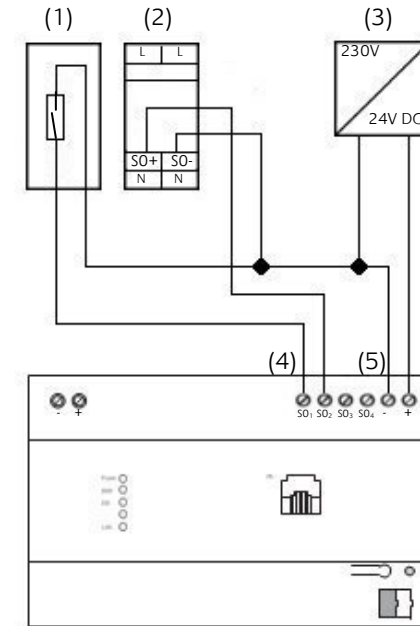

Figure 2: SO pulse input connection plan
- If you use SO pulse input: Connect 24 V DC to the terminal for the SO pulse input power supply (Figure 2, 5).
Connect SO pulse input devices to the SO pulse input terminals as follows see Figure 2, 4.